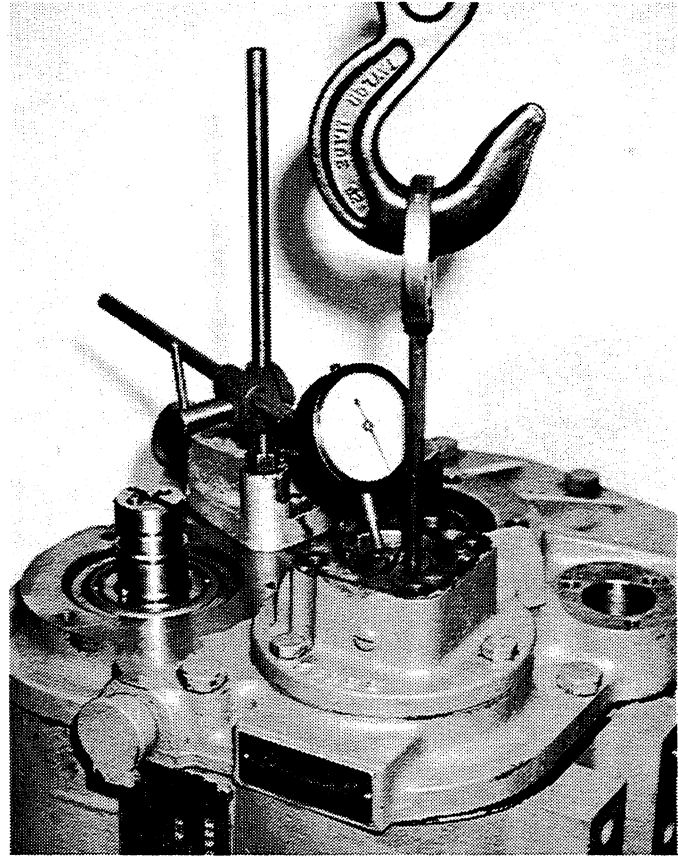

Figure 9-5. Applying Pulling Force While Checking Reverse Clutch Shaft End Play.
8. Use a hoist and fish scale to apply 60 to 100 lbs. upward (rearward) pressure and rotate the reverse clutch shaft (by turning the output shaft) several revolutions in each direction. See Figure 9-5. Stop with the tip resting on the marked spot. The indicator reading is the end play.